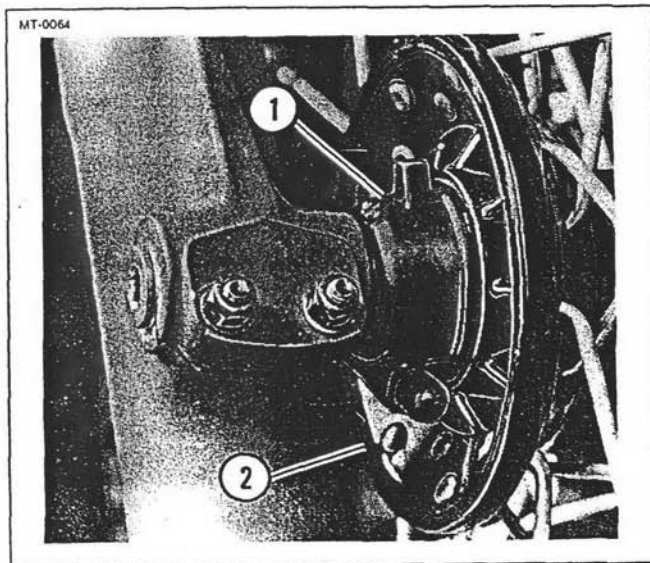

Figure 5-40. Speedometer Drive
1. See Figure 5-40. Position speedometer cable drive unit (1) onto wheel hub (2), making sure both parts are completely engaged.